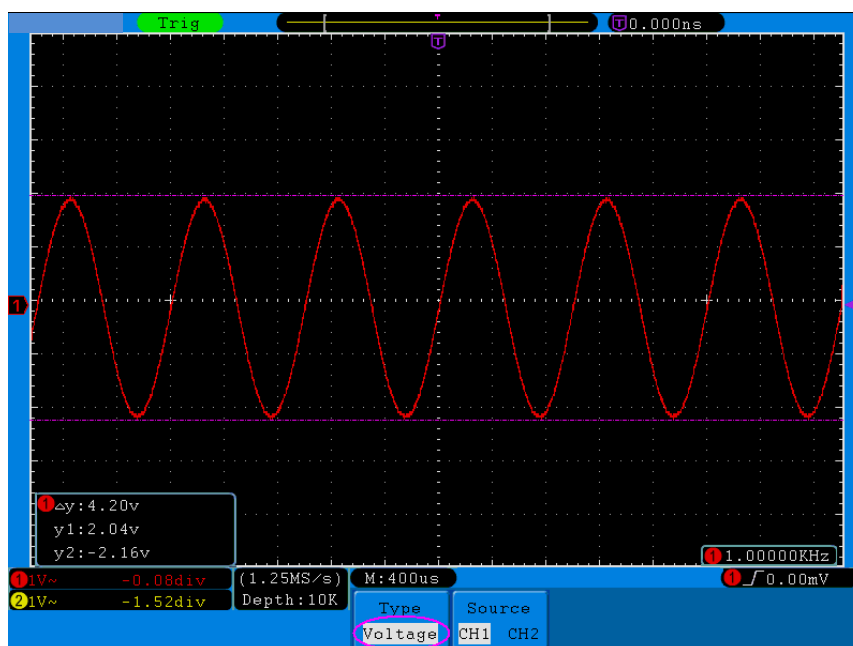

Figure 5-72 Waveform of Voltage Cursor Measurement
4. According to the measured waveform, adjust the positions of Cursor1 and Cursor2 by turning the **VERTICAL POSITION** rotary control of CH1 and CH2. Cursor increment window at the left bottom of waveform shows absolute value of D-value of cursor 1 and cursor 2 and the present position of the two cursors (see *Figure 5-72*).